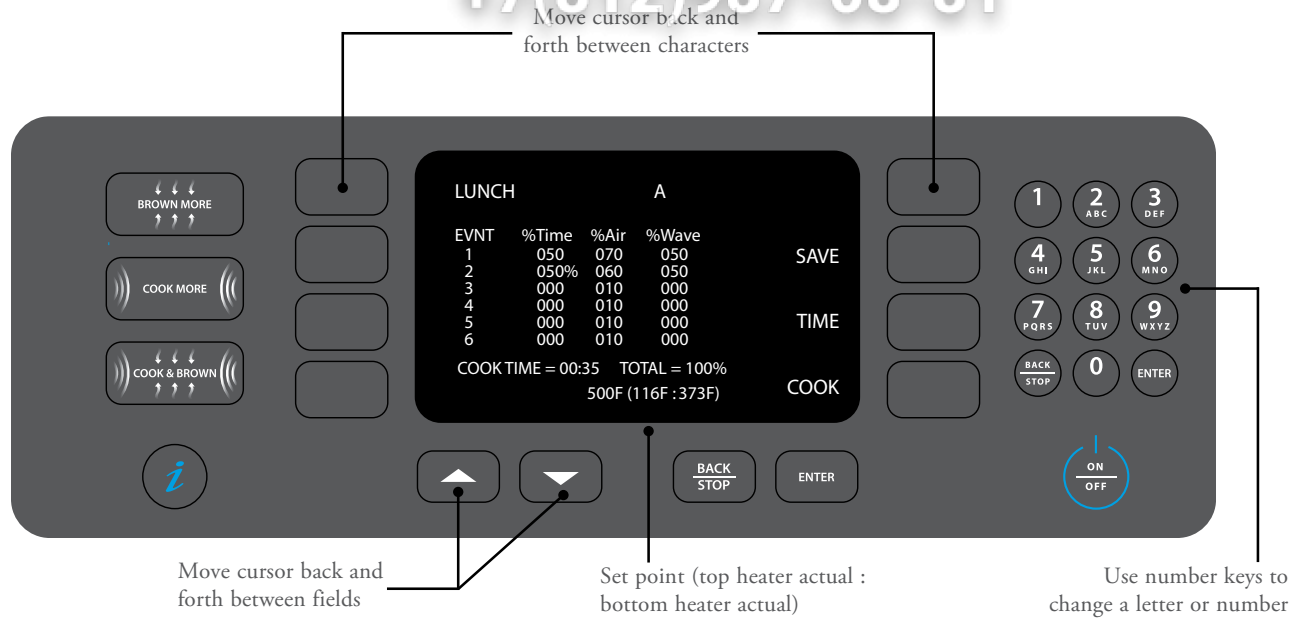

Figure 15: Edit Mode Screen 2: Recipe Edit
Go to the “Recipe Edit” screen (Figure 15) to change the food group name, food item name, and/or cook settings.
5. Change the food group or food item name (Figure 15)
6. Change the cook settings (Figure 15):